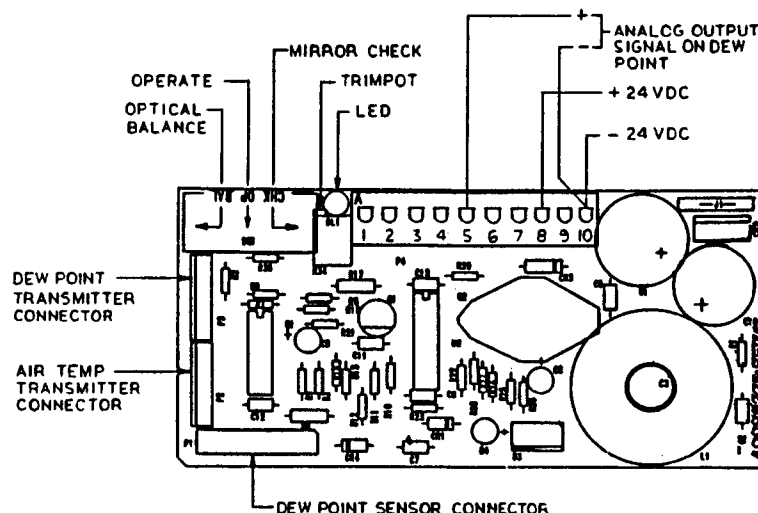

Figure 3-1. Printed Circuit Board #1
Refer to Figure 3-1.
4. Check operation by moving switch SW1 on printed circuit board #1 (shown in Figure 3-1) to the CHECK (CHK) position. The Light Emitting Diode (LED) should light within two minutes to confirm that the RHCM-10 can operate correctly. If the LED does light, return SW1 to the OPERATE (OP) position. The LED will go out as dew condenses on the metal mirror in the sensor.
5. Check the operation by moving SW1 on the printed circuit board #1 to the CHECK (CHK) position (shown in Figure 3-1). The LED should light within two minutes to confirm that the RHCM-20 can operate correctly. If the LED does not light, refer to Section 6.2.1, Procedure for Mirror Surface Condition Check. If the LED does light, return SW1 to the OPERATE (OP) position. The LED will go out as dew condenses on the metal mirror in the sensor.
5. Check the operation by moving SW1 on the printed circuit board #1 to the CHECK (CHK) position (shown in Figure 3-1). The LED should light within two minutes to confirm that the RHCM-30 can operate correctly. If the LED does not light, refer to Section 6.2.1, Procedure for Mirror Surface Condition Check. If the LED does light, return SW1 to the OPERATE position. The LED will go out as dew condenses on the metal mirror in the sensor.